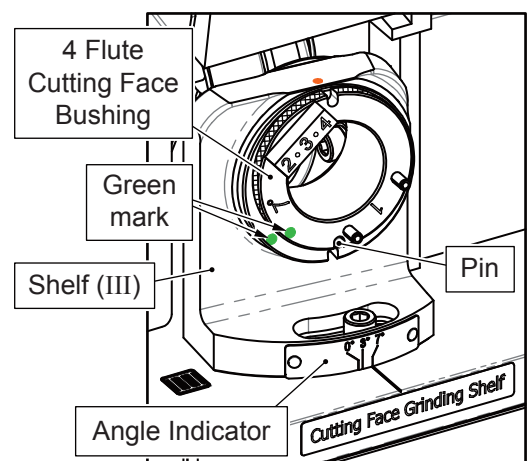

Fig. 5-23
3) Cutting Face Grinding Shelf (III) (Fig. 5-23)
- ① Adjust the Shelf (III) to 7°.
- ② Insert 4 Flute Cutting Face Bushing into the Shelf (III), align No.1 of the bushing to the pin on the shelf, then insert it to the end.